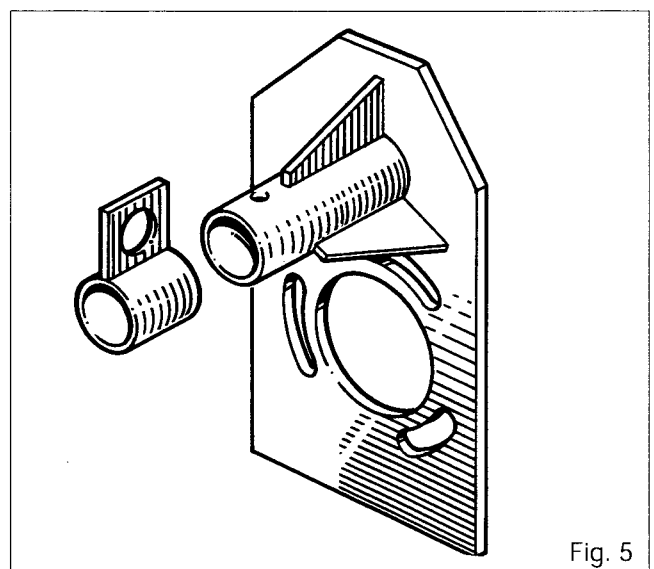

Fig. 5
**3376883M1 - Sling for front unit (Fig. 5)**